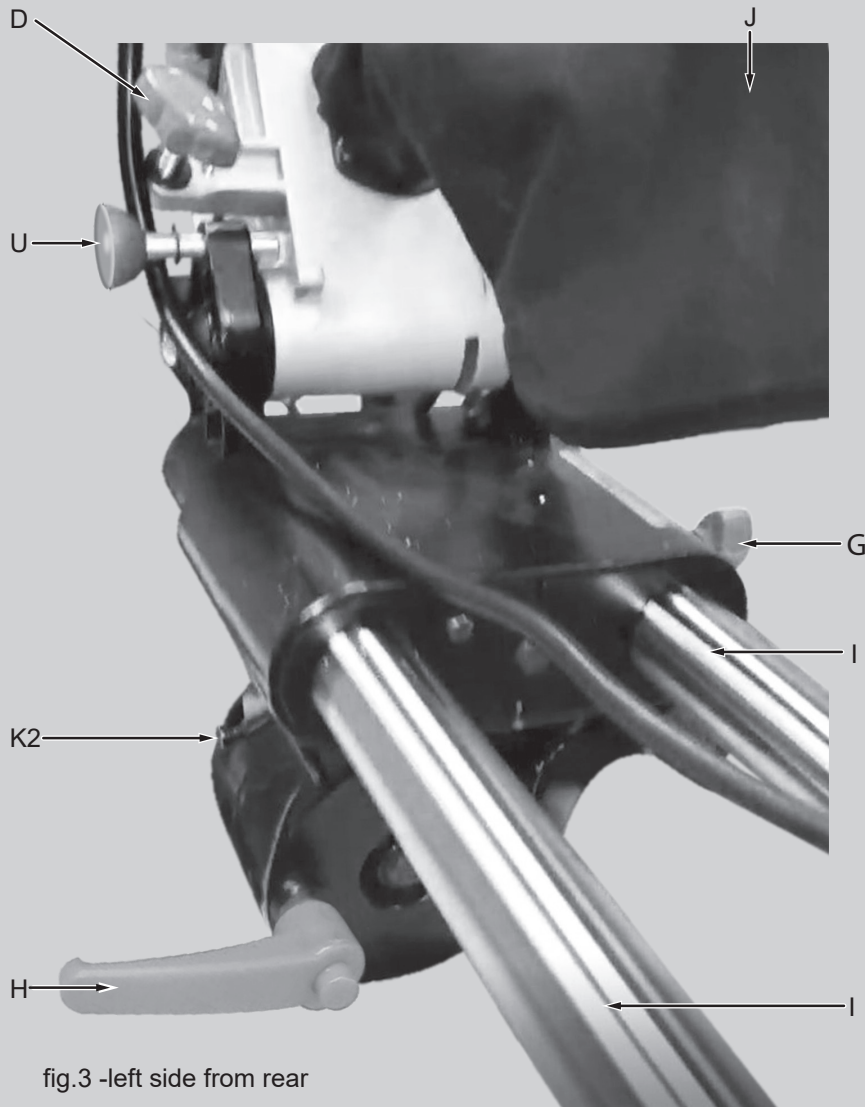

fig.3 -left side from rear
- To disengage the cutting head from its shipping and storage position, push down lightly on it and pull out the spring-loaded cutting head lock knob on the right side shown at U, fig.3. Turn it a quarter turn until the pin in the shaft rests in the small groove to hold the button out.